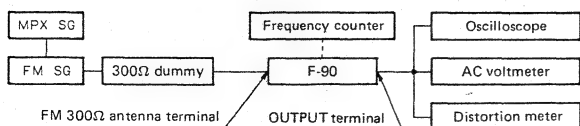

Fig. 11-3 FM MPX Adjustment Connection Diagram
- Connect up as shown in Fig. 11-3.